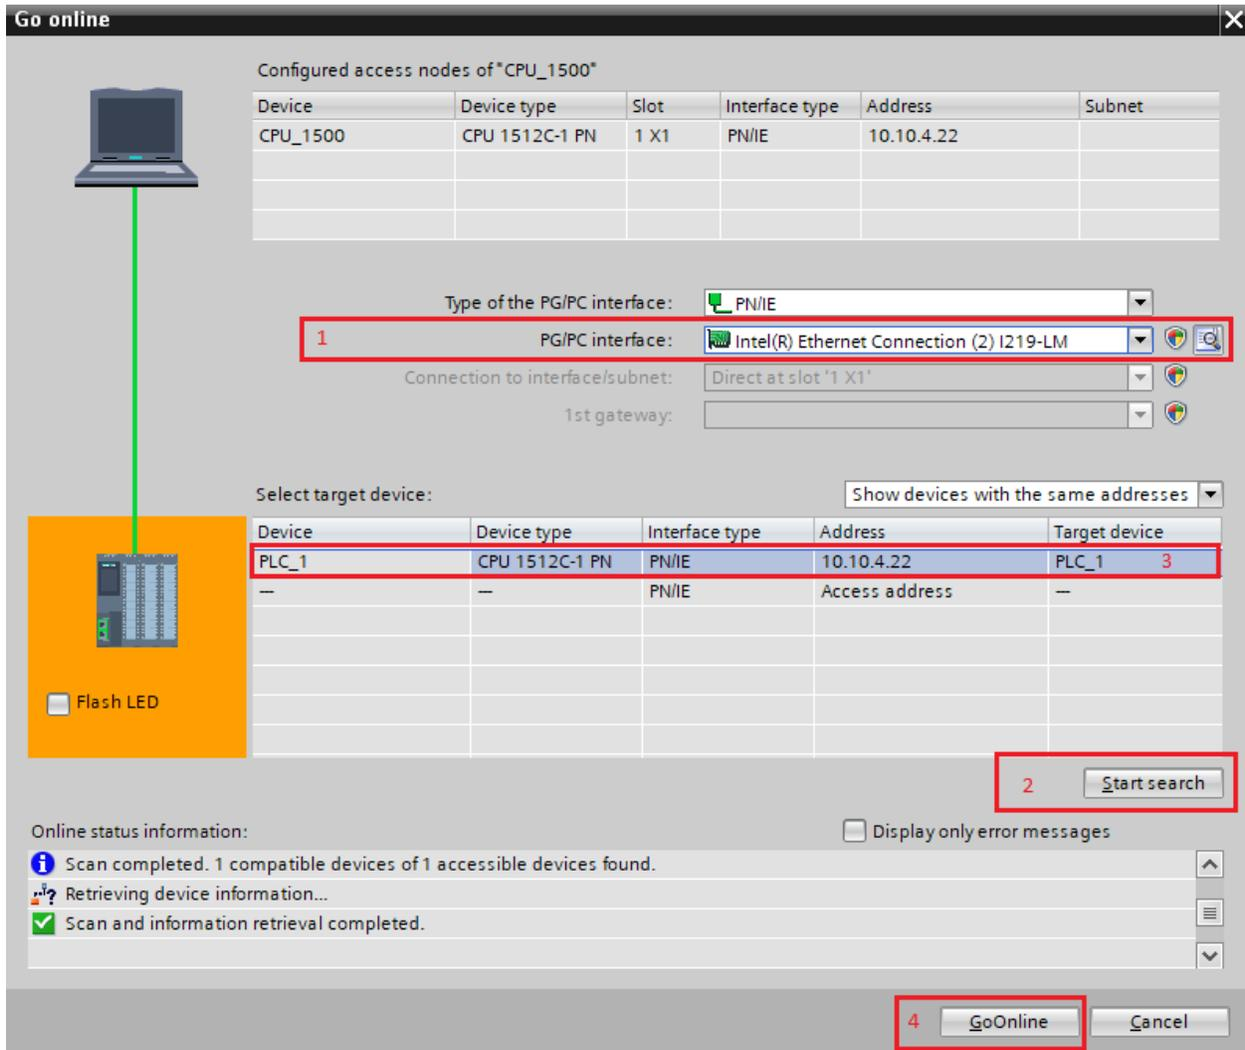

Figure 11: Step 6 Hardware detection for CPU\_1500
**Save and compile the hardware configuration** → Before you compile the configuration, you should save your project by clicking "Save project" (figure 11 yellow). To compile your CPU with the device configuration, first select the "CPU\_1500 [CPU1516F-3 PN/DP]" folder and click the → "Compile" icon (figure 11 red).
Then click on Download to device icon (figure 11 Blue) → After a successful download, the project view will open again automatically.